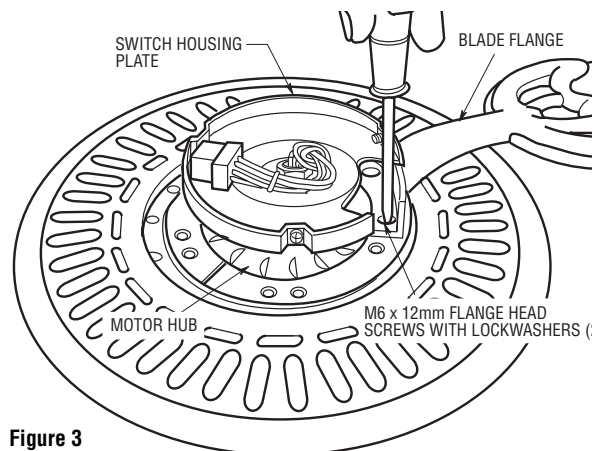

Figure 3
- 8. Rotate the motor hub until the flange screw hole is next to the cutout in the switch housing plate. Attach the blade assembly to the motor hub using the two M6 x 12mm flange head screws and lockwashers (Figure 3). Make sure all screws are tightened. Repeat this procedure for the other four blade assemblies.